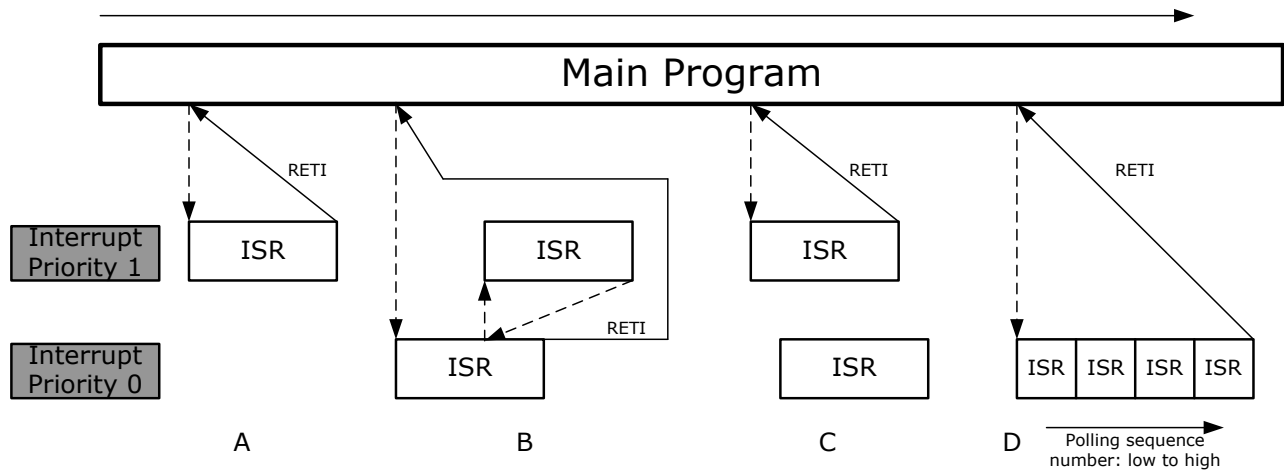

Figure 9-3 Processing Interrupts
Figure 9-3 shows the interrupt processing in V9003/V9103. When an enabled interrupt occurs,
- The CPU jumps to the interrupt vector address to execute the interrupt service routine (ISR) associated with that interrupt. The CPU completes the ISR execution unless another interrupt of higher priority occurs. Each ISR ends with an RETI (return from interrupt) instruction, as shown in A of Figure 9-3 Processing Interrupts.
- In V9003/V9103, Interrupt Priority 1 has higher priority than Interrupt Priority 0. So, the ISR of Interrupt Priority 0 only can be interrupted by the ISR of Interrupt Priority 1, as shown in B and C of Figure 9-3.
- An ISR of Interrupt Priority 0 was intruded by one of Interrupt Priority 1. When the latter one is executed, the program will return to execute the unfinished ISR of Interrupt Priority 0, and then, execute the instruction RETI to finish the ISR, as shown in B of Figure 9-3.
- When two interrupts of the same tier (Interrupt Priority 1 or Interrupt Priority 0) occur simultaneously, the polling sequence of them is observed, as shown in D of Figure 9-3.